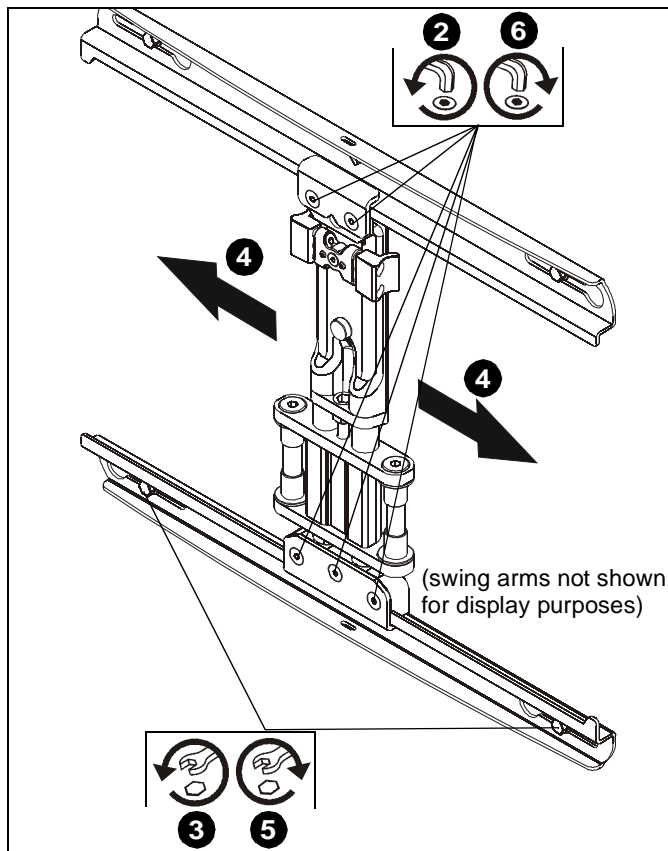

Figure 33
1. Remove wall rail covers (N) to expose lateral shift adjustment screws on wall rails.
2. Loosen five lateral shift adjustment screws using 3/16" hex key (CC). (See Figure 33)
3. Loosen two lower lag screws securing lower rail to the wall. (See Figure 33)
4. Slide mount laterally to desired mounting position. (See Figure 33)
5. Tighten two lower lag screws. (See Figure 33)
6. Tighten five lateral shift adjustment screws. (See Figure 33)
7. Reinstall wall rail covers (N).